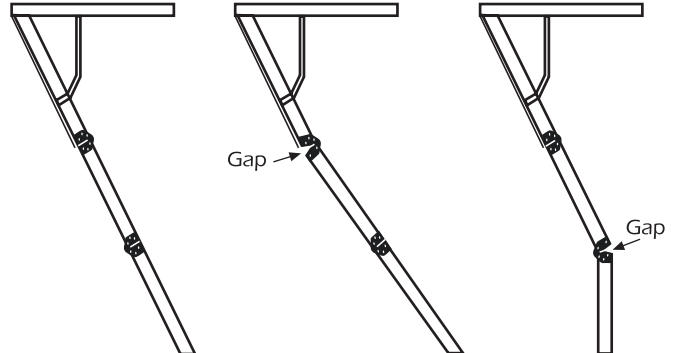

Fig. 10 - Correct Fig. 11 - Too Long Fig. 12 - Too Short
Step 13- Check to make sure of proper length. Standing on second step of the bottom section, the stairs should fit flush with the floor and all joints should be tight with no gaps (Fig. 10). If the stairs are too long (Fig. 11), trim them again. If the stairs are too short (Fig. 12), do not use them. The bottom section will have to be replaced. Contact your vendor or Bessler Stairway Company.